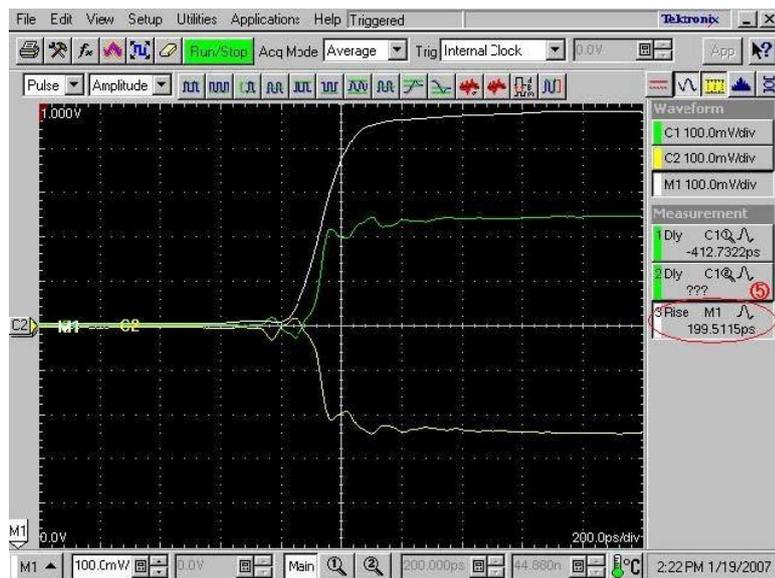
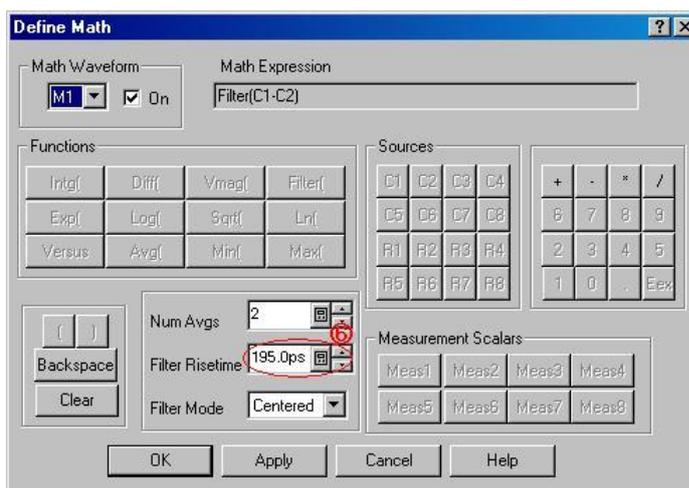

Figure 9 Adjusting the rise time
Figure 10 Changing the Filter Risetime value
7. Adjust the rise time so that the reading of ⑤ in Figure 9 is 200 ps by changing the **Filter Risetime** value (see ⑥ in Figure 10). If you cannot adjust the value to 200 ps exactly, set it to the nearest value below 200 ps.